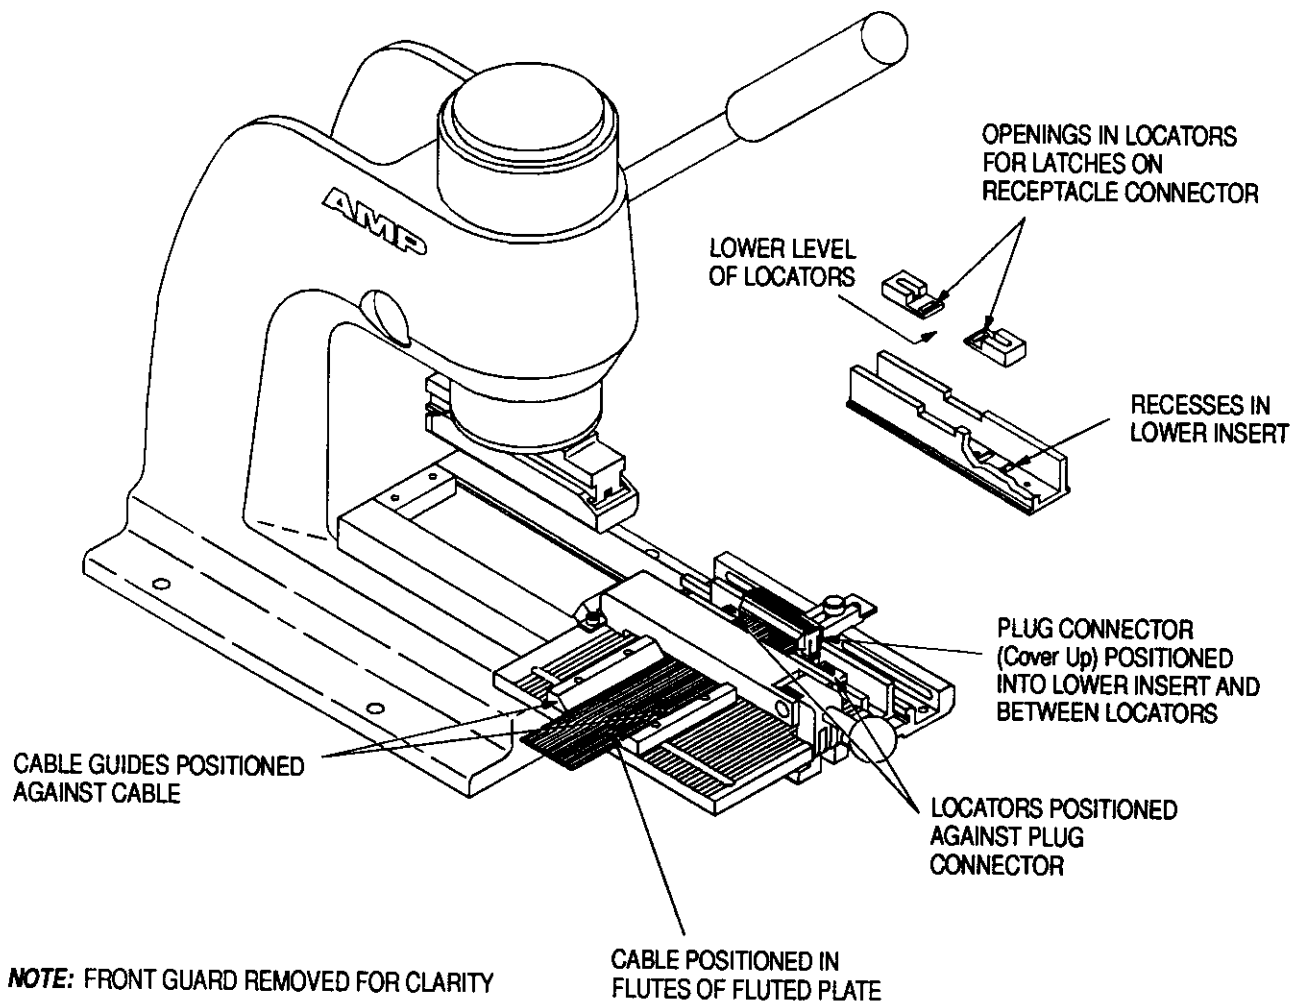

Figure 3
2. Slide cable through the connector; then insert connector (cover up) into the lower insert and between the locators. See Figure 3.
4. Slide locators against the connector; then secure the locators with the socket head cap screws. The front metal shell of the connector must fit securely between the lower level of the locators, as shown in Figure 3.
*When terminating receptacle connectors with latches, the latches must go through the openings in the locators and sit in the recesses on the bottom of the lower insert. See Figure 3.*
5. Slide cable guide (located on the side of the cable with the registration mark) against the cable and secure it with the thumbscrew. Slide the other cable guide against the cable and secure it with the thumbscrew. See Figure 3.
- Added callout for openings for latches of receptacle connector in locator to Figure 3